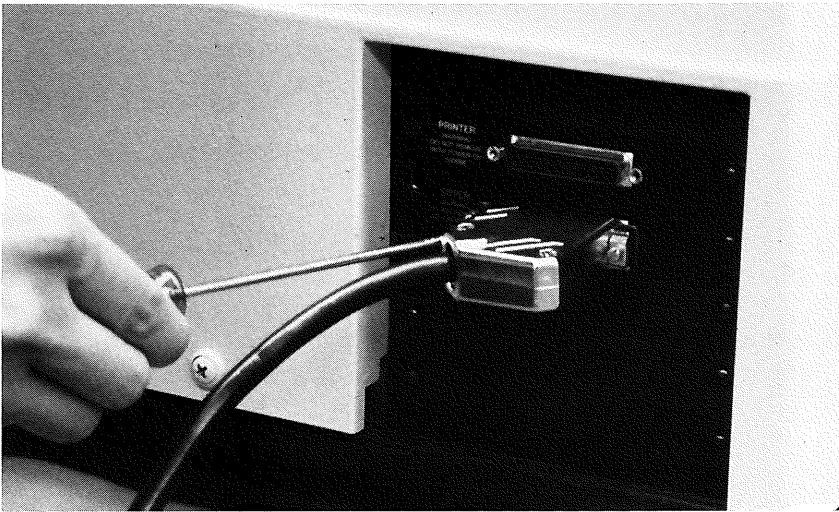

Figure 9.
12. Connect one end of the sipper cable to the sipper board and secure by tightening the two screws. See Figure 9.